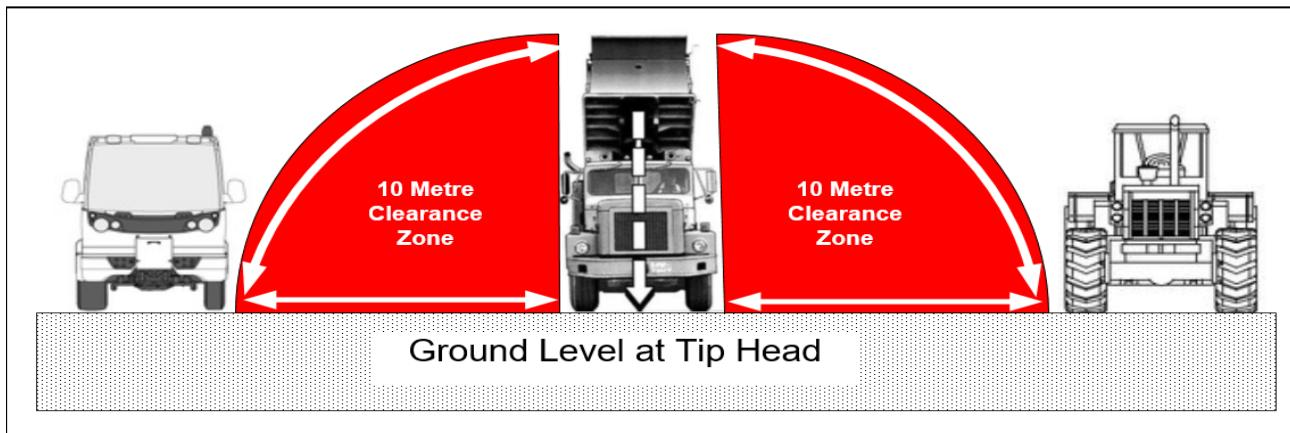

Figure 11 – Maintain a 10 Metre Clearance between Trucks and Mobile Equipment
- Maintain the 10-metre safe clearance distance (Figure 11),